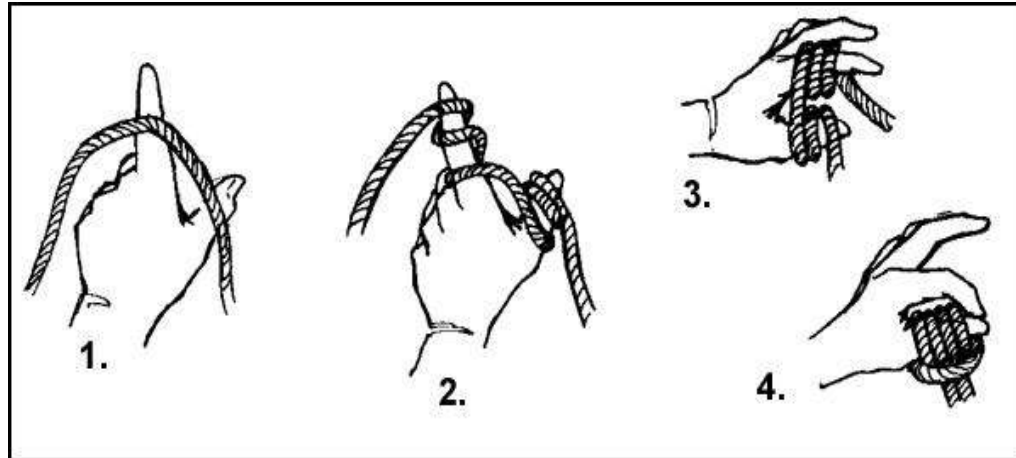

Figure 7-19. Finger prusik knot.
(2) *Second method.* Another way of tying the prusik knot is the finger prusik (Figure 7-19).